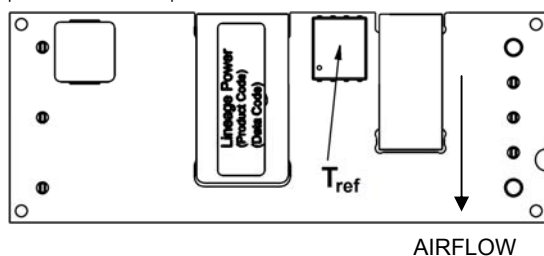

Figure 13. T_{ref} Temperature Measurement Location for open Frame Module.
To provide protection under certain fault conditions, the unit is equipped with a thermal shutdown circuit. The unit will shutdown if the thermal reference point T_{ref} (Figure 13), exceeds 150°C (typical), but the thermal shutdown is not intended as a guarantee that the unit will survive temperatures beyond its rating. The module can be restarted by cycling the dc input power for at least one second or by toggling the remote on/off signal for at least one second. If the auto-restart option (4) is ordered, the module will automatically restart upon cool-down to a safe temperature.
The thermal reference point, T_{ref} used in the specifications for open frame modules is shown in Figure 13. For reliable operation this temperature should not exceed 122°C.